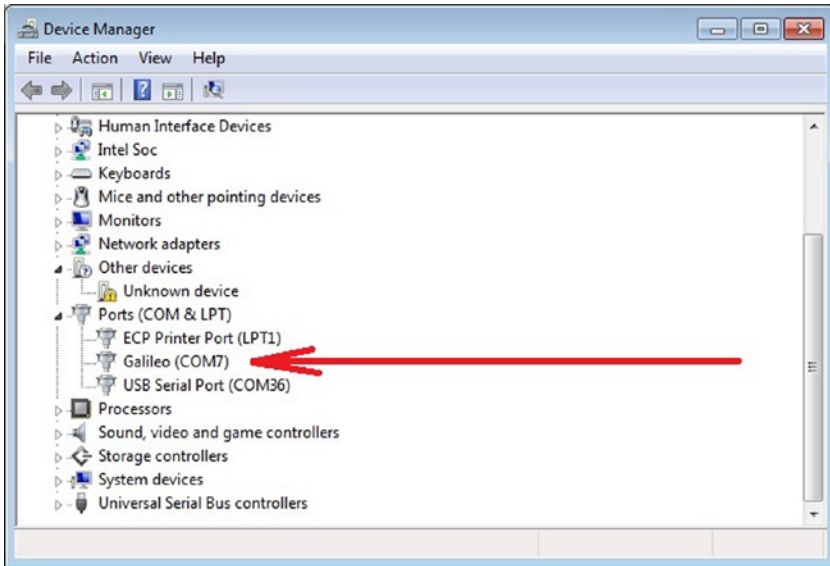

Figure 3-3. *Galileo serial driver in Windows the Control Panel*
2. Look under Ports (COM & LPT). You should see an open port named “Gadget Serial V2.4” if you using an old release like 0.7.5 or simply “Galileo” in newer releases. Figure 3-3 shows the serial driver.
The concept of “verify” on Arduino IDE really means compile the code. That should report “Done compiling” in the area represented by the number 2 in Figure 3-3.